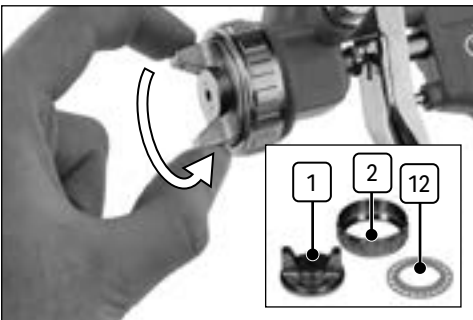

Fig. 2
1. Unscrew the air cap lock ring (2) and remove the lock ring, air cap (1) and gasket (12) (Fig. 2).